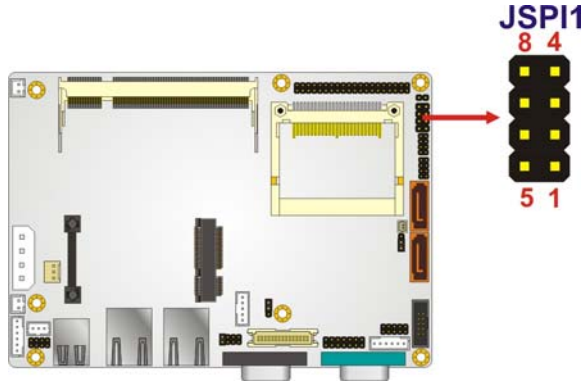

Figure 3-18: SPI Flash Connector
- CN Location:** See **Figure 3-18**